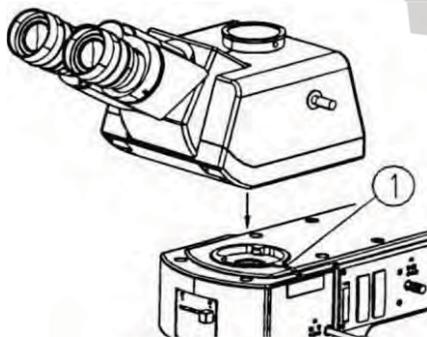

Fig.3
- (1) Loosen the observation head locking screw ① completely.
- (2) Turn the dovetail connector at the bottom of the observation tube from the center of the round hole on the illuminator to the left, slightly tilt to the right, insert the round hole along the hole opening, make the two tubes of the observation tube face forward, and tighten the locking screw ①. (See Fig.3)